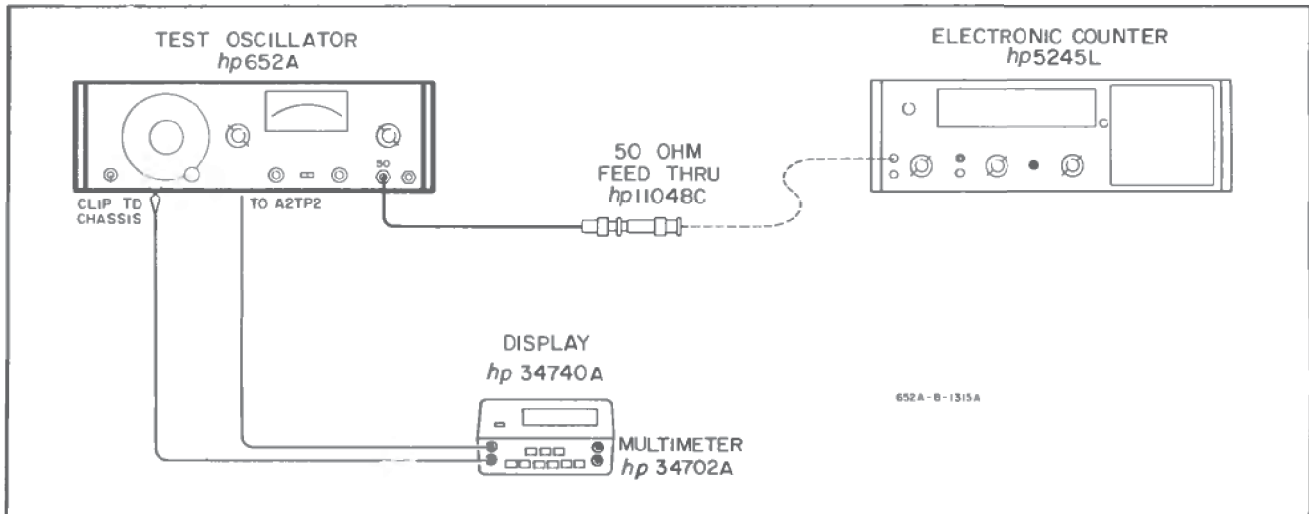

Figure 5-8. Frequency Calibration.
c. The frequency calibration setup is shown in Figure 5-8. Output frequency should be continuously monitored at the 50 ohm output with a counter. DC voltage at A2TP2 should also be monitored continuously, after Paragraph 5-28 has been performed.
c. Connect equipment as shown in Figure 5-8 and set 652A controls same as Paragraph 5-28b.
- a. Connect equipment as shown in Figure 5-8.